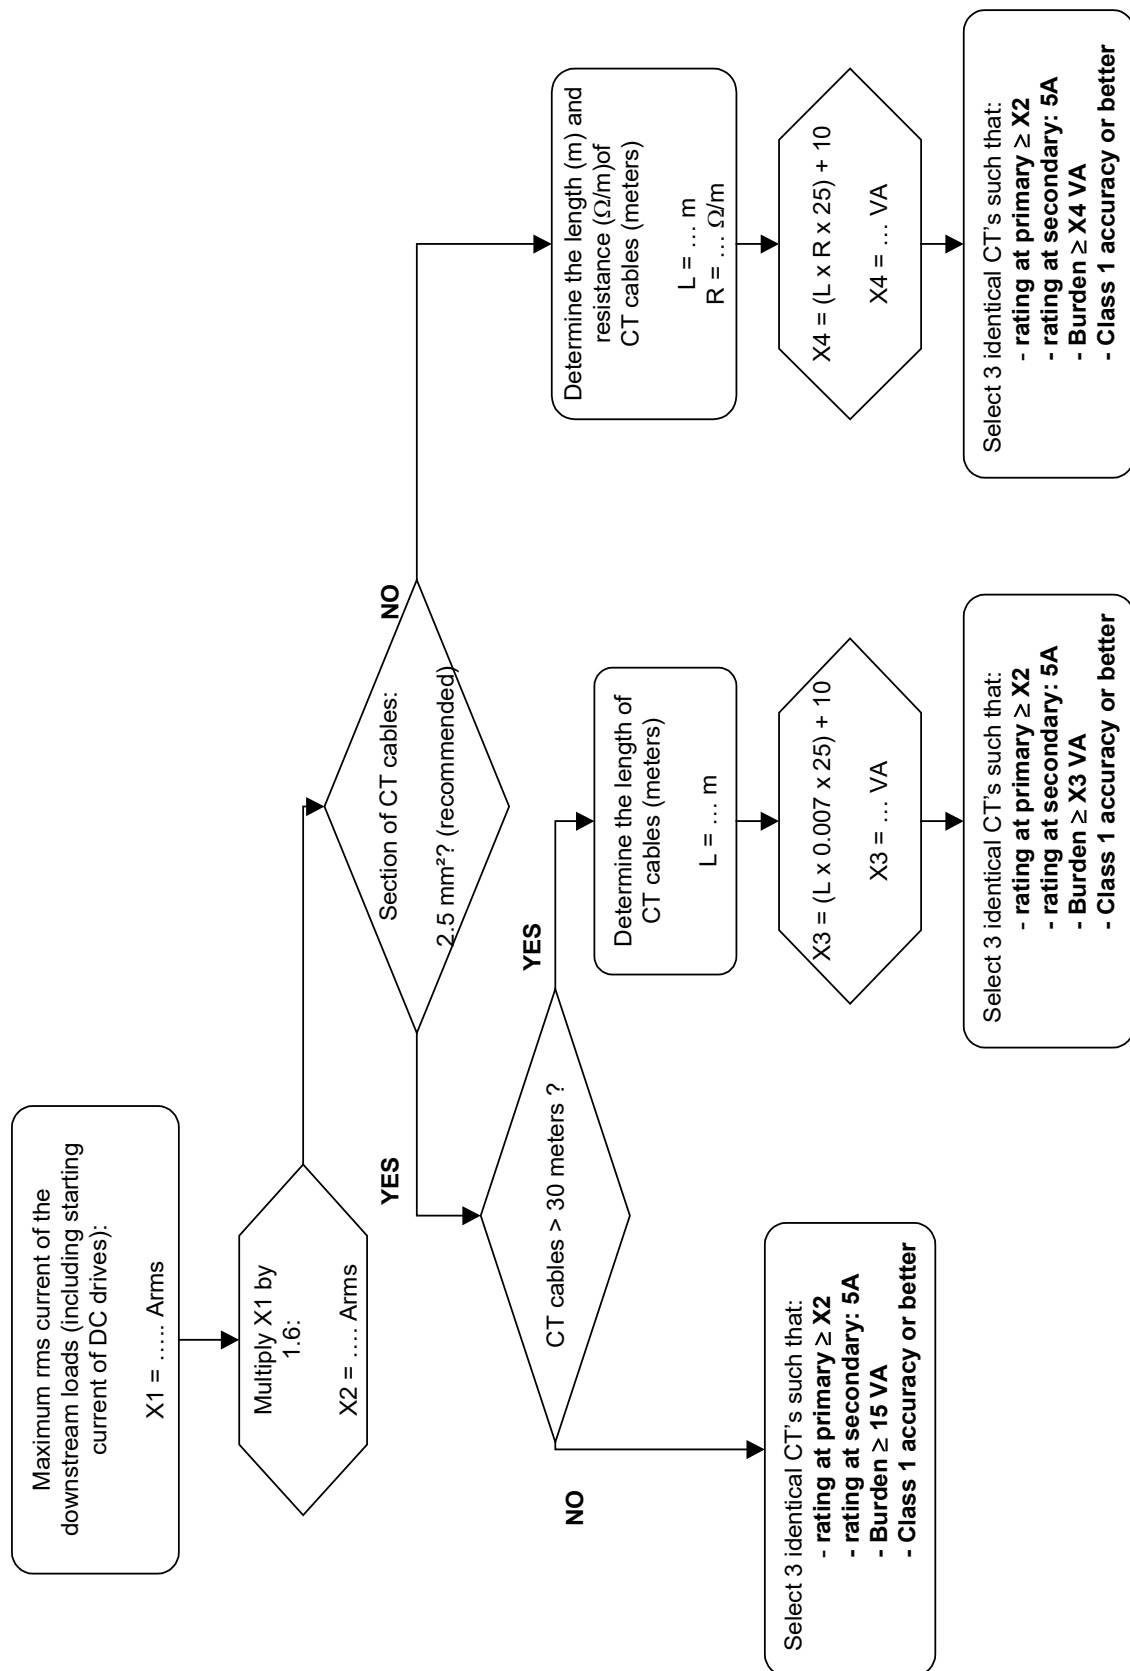

Figure 32: Flow chart for CT determination
- 15 VA burden for up to 30 meters of 2.5 mm² cable. For longer cables lengths refer to the chart in Figure 32. In case the CTs are shared with other loads, the VA burden shall be adapted accordingly. Note that the burden requirement for a complete filter system (consisting of up to 8 filter units) is 5 VA, excluding connecting cables.
In order to determine the suitable CTs for your application, please refer to the chart in Figure 32.